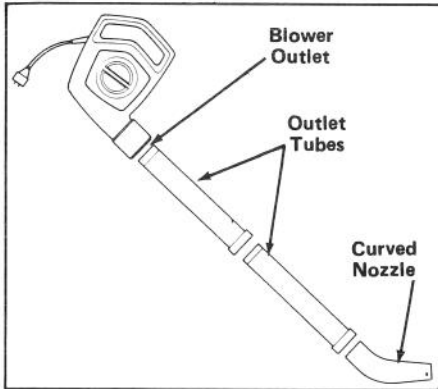

Fig.1
1. Thread outlet tubes together with a twisting motion (Fig. 1).
2. Thread assembled tubes into blower outlet (Fig. 1).